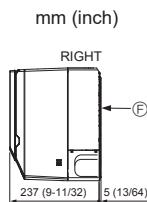

Fig. 4-2
4.2. Positioning refrigerant and drain piping (Fig. 4-2)
- Ⓕ Mount board ①